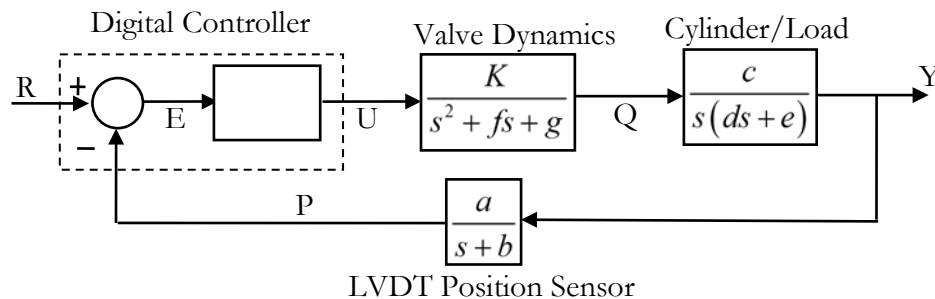

Figure 6: Typical Cylinder Position Control System
- Considering Figure 6, indicate at each signal location (designated by a letter) whether it is analog or digitally sampled. Re-draw Figure 6 for your report and add in A/D or D/A blocks where necessary.